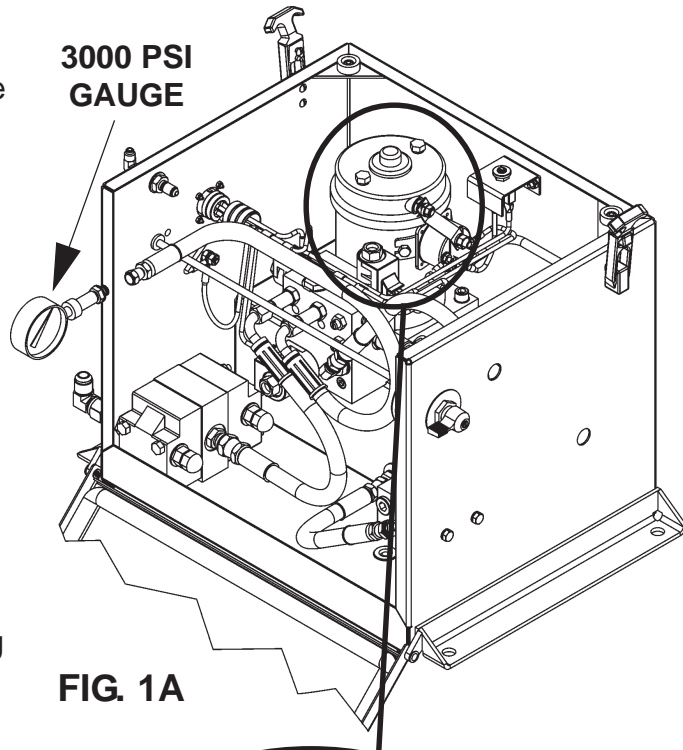
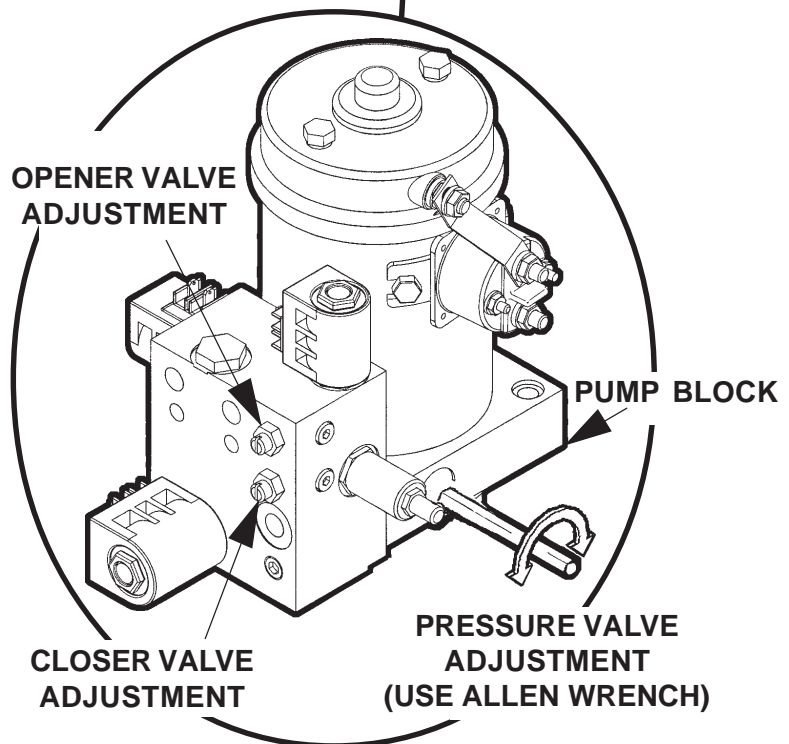

FIG. 1A
FIG. 1B
1. Open the Platform. Turn Closer Valve Adjustment (**FIG. 1B**) all the way clockwise. Disconnect hose from Folding Port bulkhead fitting and connect 0-3000 PSI gauge to hose (**FIG. 1A**).
2. Remove plug (covering Pump Pressure Relief Valve) from Pump Block (**FIG. 1B**). Set Liftgate Control Box to **FOLD**. Turn the Pump Pressure Relief Valve (**FIG. 1B**) to obtain proper Pump pressure setting of **2750 PSI**. Re-install plug.
3. Disconnect 0-3000 PSI gauge from hose (**FIG. 1A**) and re-connect hose to Folding Port bulkhead fitting.
4. Reset the Closer Valve Adjustment (**FIG. 1B**) to obtain Platform closing speed cycle of 4-6 seconds.